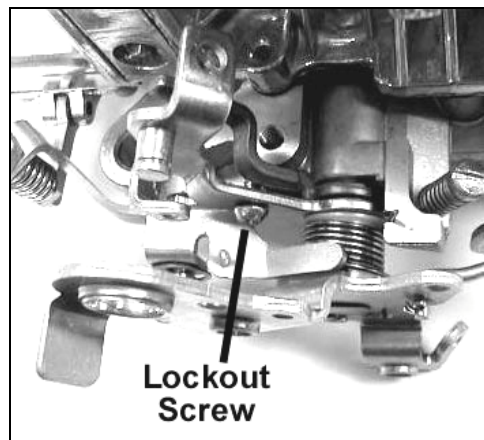

Figure 6
3. Remove the lock out screw from the kickdown lever (Figure 6).